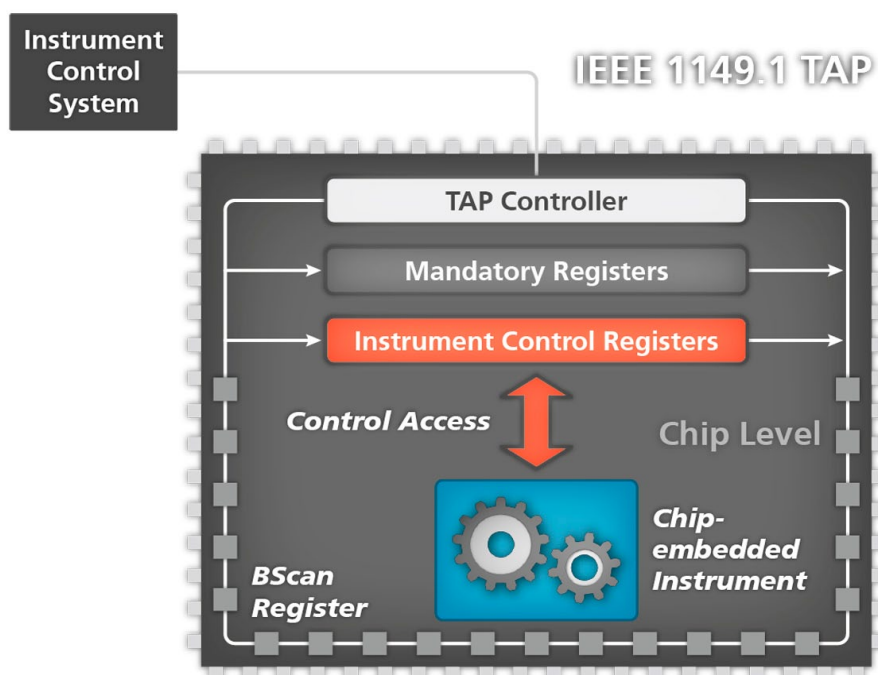

Figure 6 Boundary scan IC includes chip-embedded instrument
Chip-embedded instruments are test and measurement intellectual property (IP) blocks integrated into ICs, which are controlled via the test bus (see Figure 6). Of course, the IC may have boundary scan included.